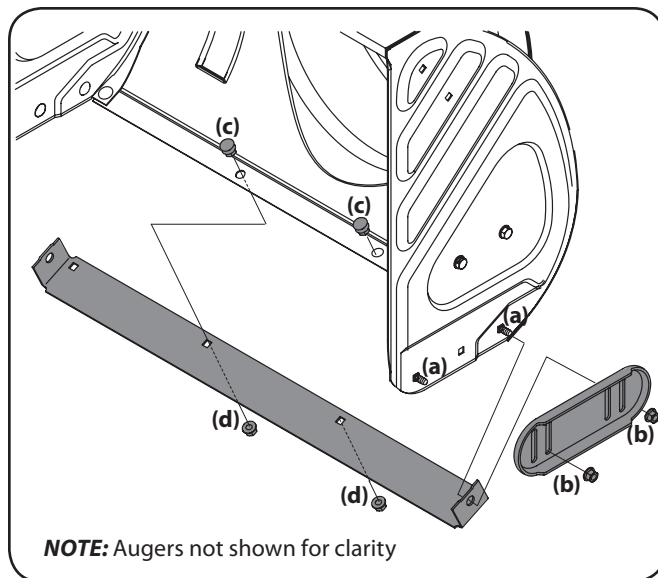

Figure 6-1
2. Reassemble new skid shoes with the four carriage bolts (a) (two on each side) and hex flange nuts (b). Refer to Figure 6-1.
3. Remove the carriage bolts (c) and hex nuts (d) which attach it to the auger housing. See Figure 6-1.
4. Reassemble new shave plate, making sure heads of carriage bolts are to the inside of housing. Tighten securely. See Figure 6-1.